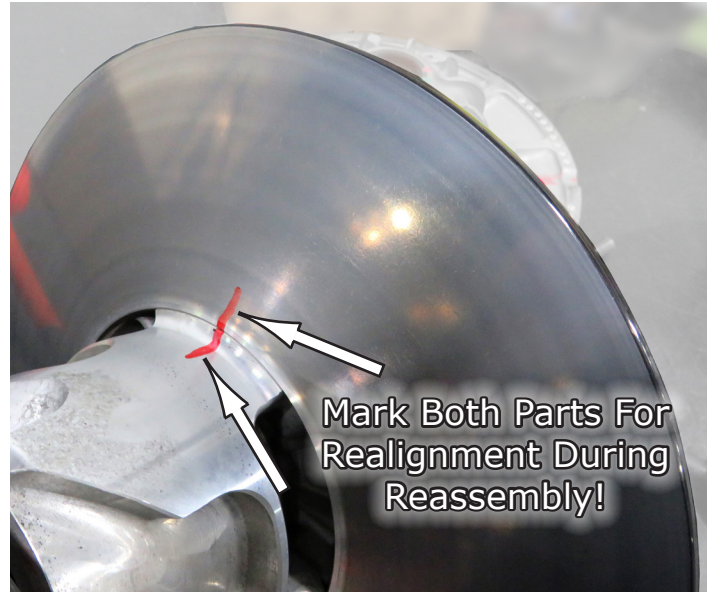

Fig.8
9. After you remove the top, now make a mark underneath where the two pieces join so you can align it up in the right position during reassembly. See **Fig.8**.